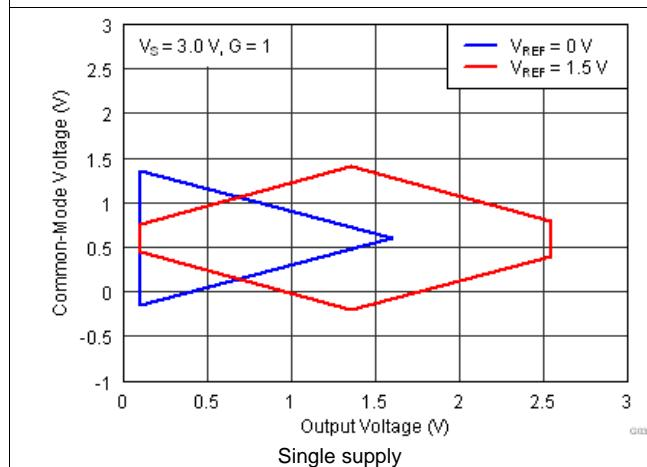

Figure 9. Input Common-Mode Voltage vs Output Voltage
(1) Total offset, referred-to-input (RTI): $V_{\text{OS}} = (V_{\text{OSI}}) + (V_{\text{OSO}} / G)$
(2) Input voltage range of the INA826 input stage. The input range depends on the common-mode voltage, differential voltage, gain, and reference voltage. See *Typical Characteristic curves* Figure 9 through Figure 16 and Figure 41 through Figure 44 for more information.